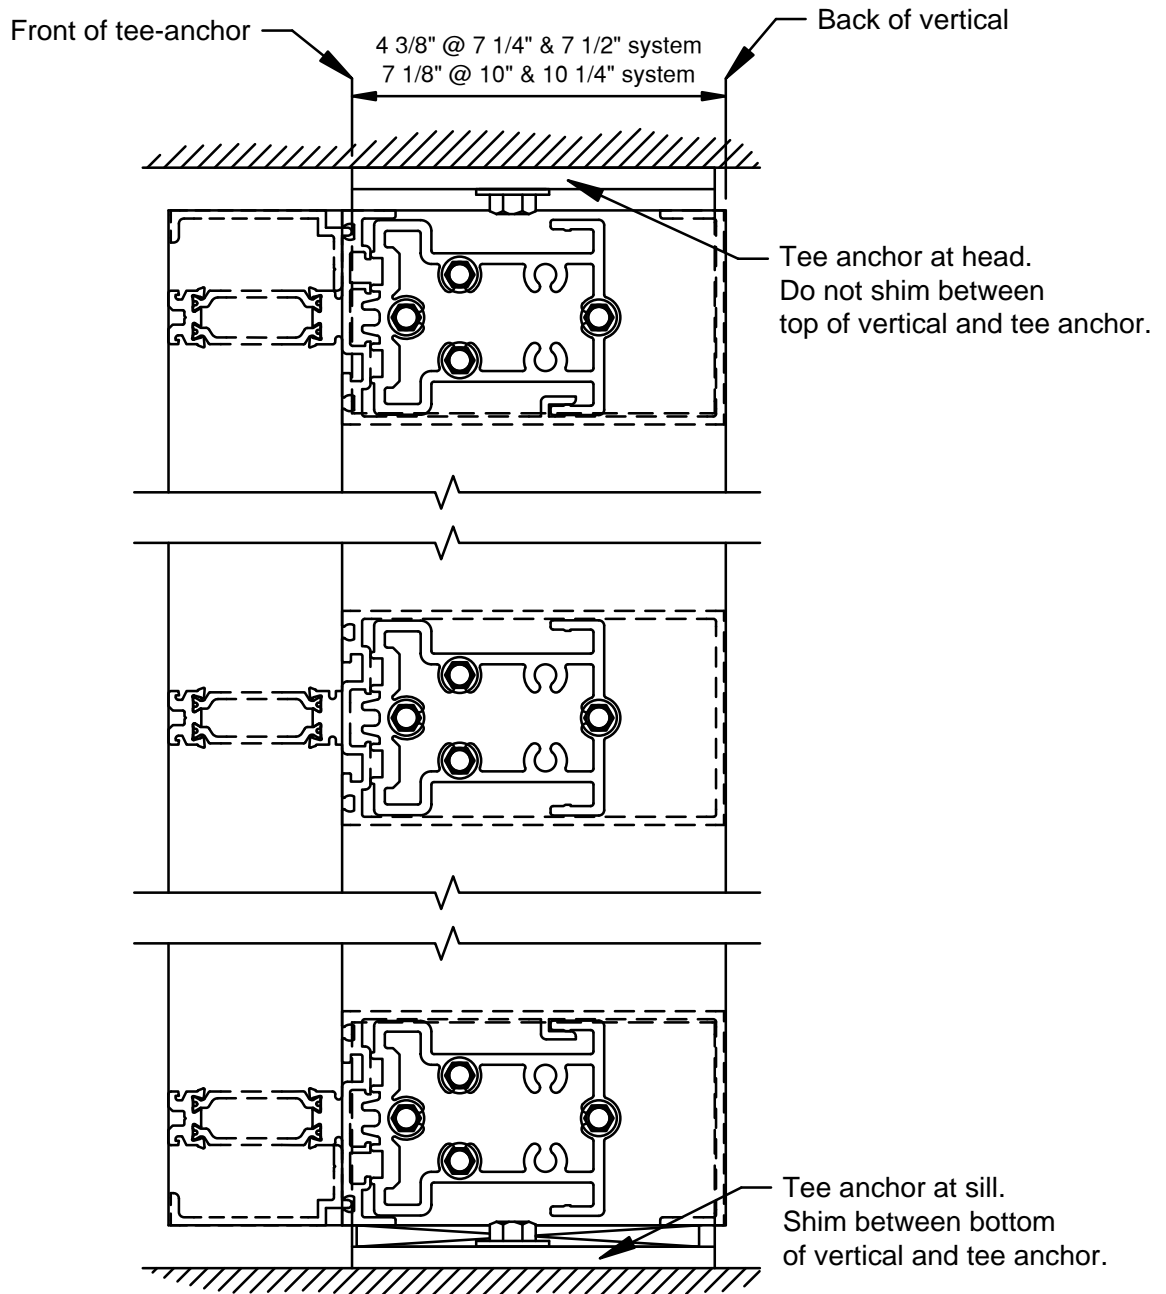

FIGURE 4
2.1.1 Attach shear blocks to all vertical members. SEE FIGURE 4 for proper orientation on mullion.